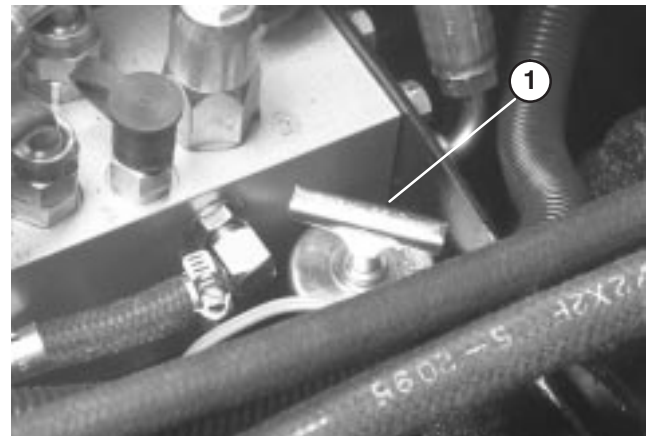

Figure 7
CHECK HYDRAULIC FLUID (Fig. 7)
2. Unscrew dipstick cap (Fig. 7) from the filler neck and wipe it with a clean rag. Screw dipstick cap finger tight onto filler neck. Unscrew the dipstick and check level of oil. If level is not up to FULL mark on dipstick (Fig. 7), add enough oil to raise level to mark. DO NOT OVERFILL.